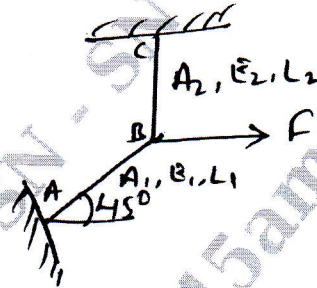

Fig.Q.8(c)
c. Fig.Q.8(c) shows two bars AB and CB are pinned at A, B and C subjected to a Horizontal applied force ' F ' at B. Using Castiglianos theorem, determine the horizontal and vertical displacement of 'B'. (10 Marks)